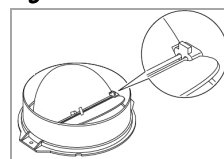

Fig. 3
- Hang up the hood. Check the secure hold and the horizontal position. Tighten the lower screws 2x ST4*30mm through the hood body to secure the hood (*Fig. 3*).